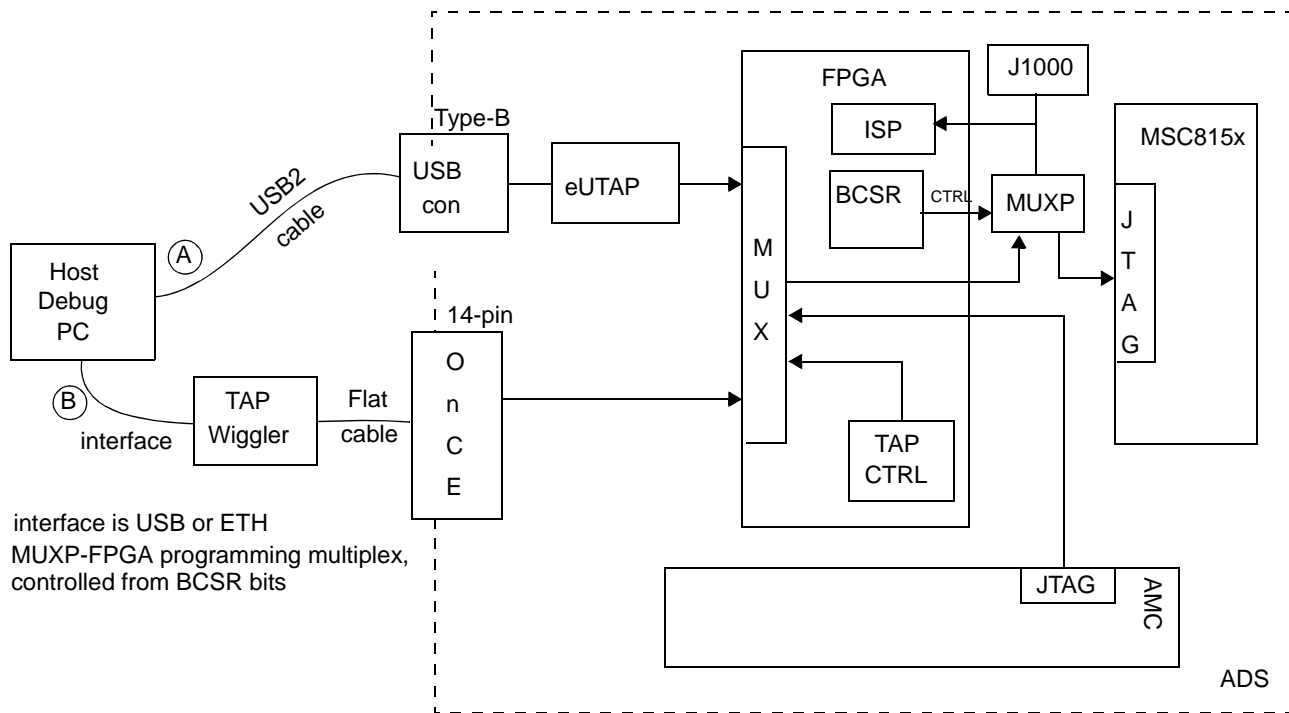

Figure 2-9. ADS JTAG Multiplexer
The ADS JTAG interconnection scheme is shown in **Figure 2-9** below:
MUXP shown in **Figure 2-9** allows for FPGA programming. An erased device provides a control signal selecting the ISP connector. This allows you to program the FPGA once after power-on. Initiated FPGA logic releases the control signal to direct the JTAG signals to the MSC8156 Debug Port. To re-program the FPGA content, the two BCSR bits 12.5 and 13.4 (FPGA_PRG1,2) should be cleared (0). After that, the update SVF image file can be loaded via the Embedded UTAP. The next power OFF/ON sequence returns the MUXP in the initiate state. The dedicated ISP 10-pin connector J1000 is used to program the FPGA with the Lattice programming tool at any time. The programming mode can be forced by the appropriate setting of the 3-pin JP1000 PRG jumper; see **Table 2-4**.